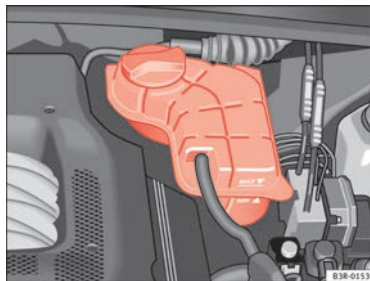

Fig. 183 Engine compartment: Coolant fluid deposit
- Check the coolant level on coolant fluid expansion tank ⇒ Fig. 183. When the engine is cold, it should be between the “min” and “max” marks. When the engine is hot, it may be slightly above the “max” mark.
- Cover the cap on the expansion tank ⇒ Fig. 183 with a cloth, and **carefully** unscrew the cap anticlockwise ⇒ ⚠.